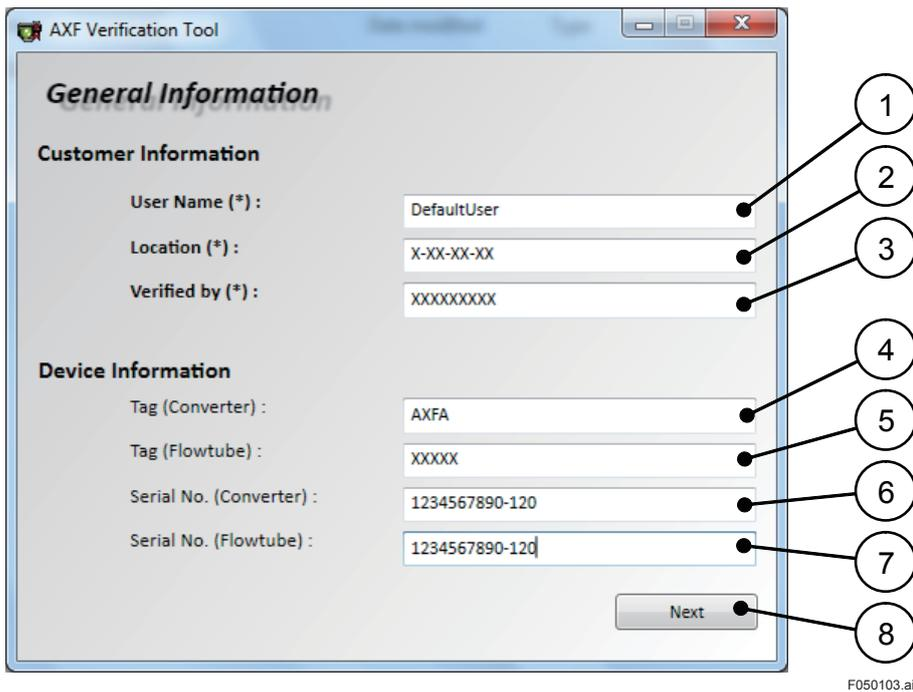

Figure 5.1.3 “General Information” Dialog
The splash screen is closed automatically, and then **Figure 5.1.3** is displayed.
- 2) “General Information” is displayed. See **Figure 5.1.3**.